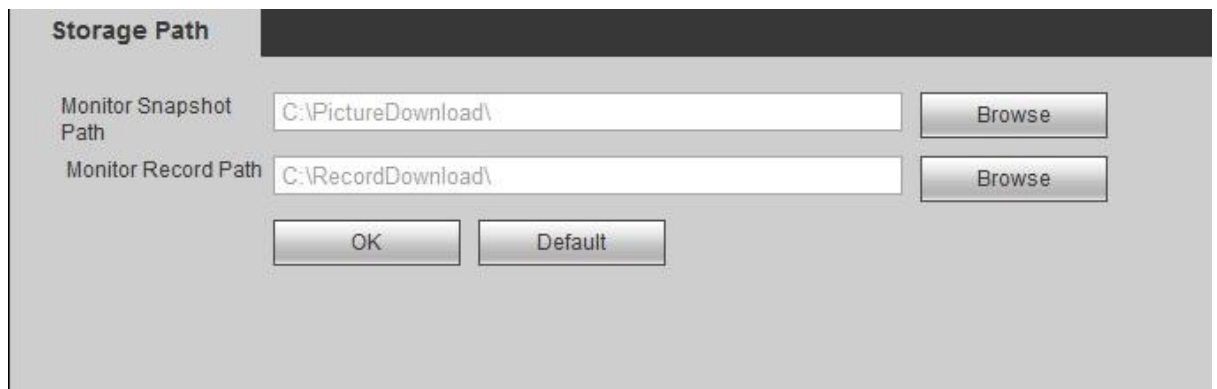

Figure 4-45
Step 1 Select “Setup> System Config> Storage Path”. The system displays “Storage Path” interface, as shown in Figure 4-45.